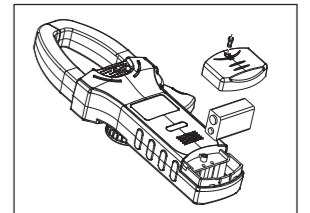

Figure 12
B. Replacing the Battery (See Figure 12)